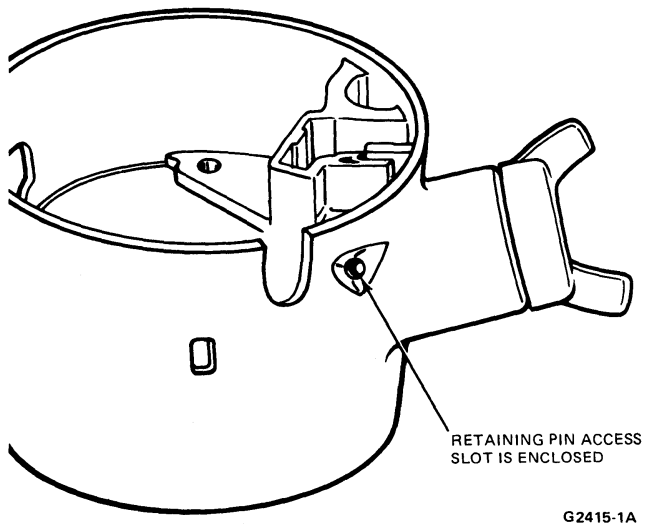

FIG. 9 Lock Retaining Pin Access Slot
3. Insert 3.17mm (1/8 inch) diameter wire pin or a small drift punch in the hole located on the outside of the steering column casting adjacent to the hazard flasher button (Fig. 9).